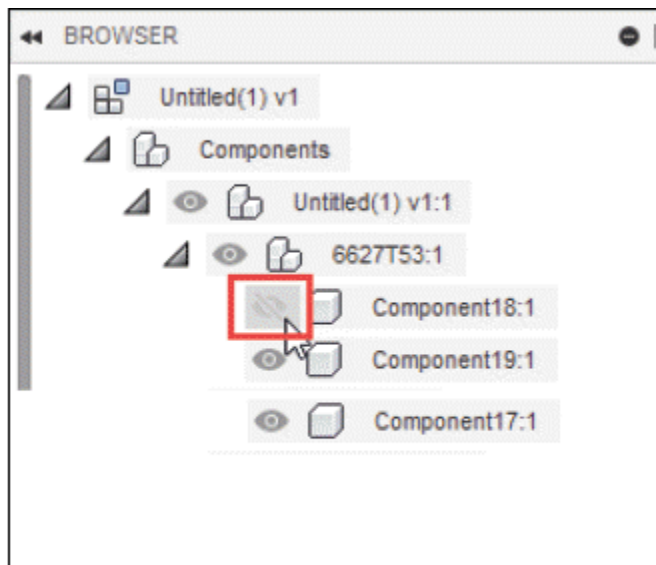

Figure-50. Viewing the hidden component
- To display the hidden component, click on the crossed eye button from **Browser**; refer to Figure-50.